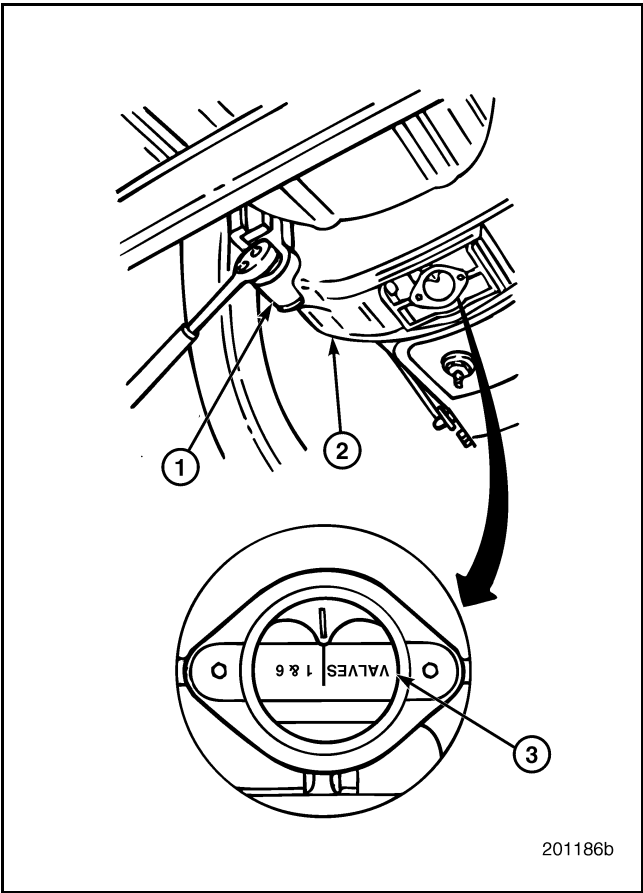

Figure 551 — Valve Adjustment Markings on Flywheel
1. Using a barring socket, manually rotate the engine crankshaft (Figure 551) in normal rotation direction 120 degrees until the center of the timing pointer hole in the flywheel housing aligns with the "2 and 5" mark on the flywheel and the No. 5 piston is on the compression stroke.